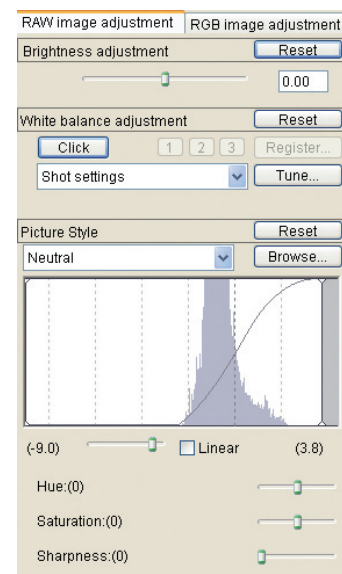

Fig. 017 RAW image adjustment tool palette
- The "RAW image adjustment" tool palette now includes a Picture Styles function for the a new processing parameter available on the EOS 5D and EOS-1D MarkII N (Fig. 017). This function can be used with all of the RAW images supported by Digital Photo Professional and can even be used to process RAW images from older models not equipped with the Picture Styles function, using the latest algorithm to achieve superb image quality.